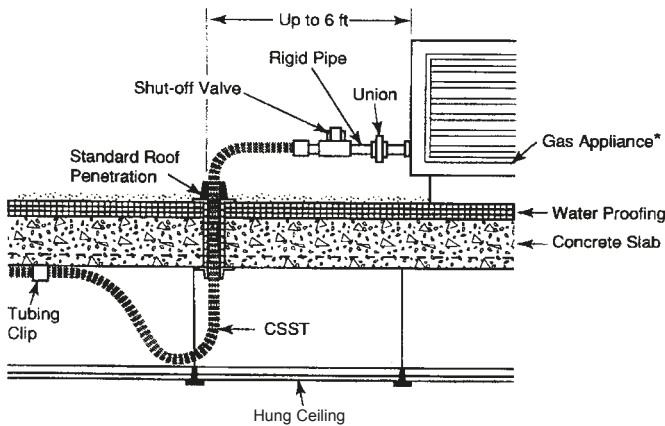

Figure: 4-16 Short (1-6 foot) outdoor connection to roof mounted equipment
2. No special mechanical protection of the piping is required for connection to roof top equipment. Whenever possible, roof penetrations shall be located within 6 feet of the equipment to be connected as shown in Figure: 4-16. Long runs of tubing shall be supported with non-metallic blocks at